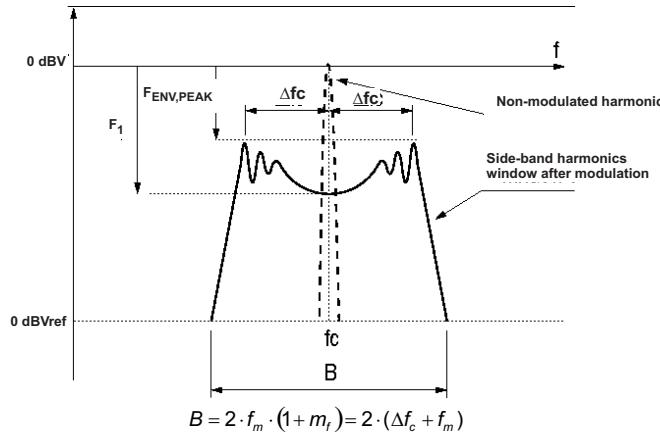
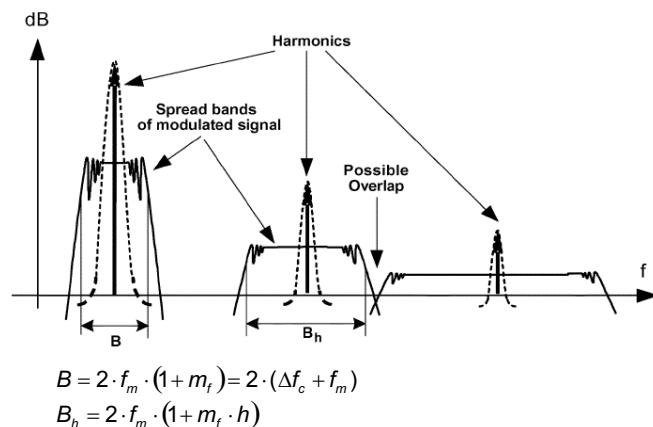

Figure 21. Spectrum Of A Frequency Modulated Sin. Wave With Sinusoidal Variation In Time
Figure 22. Spread Bands Of Harmonics In Modulated Square Signals⁽¹⁾
(1) Spectrum illustrations and formulae (Figure 21 and Figure 22) copyright IEEE TRANSACTIONS ON ELECTROMAGNETIC COMPATIBILITY, VOL. 47, NO.3, AUGUST 2005. See References Section for full citation.